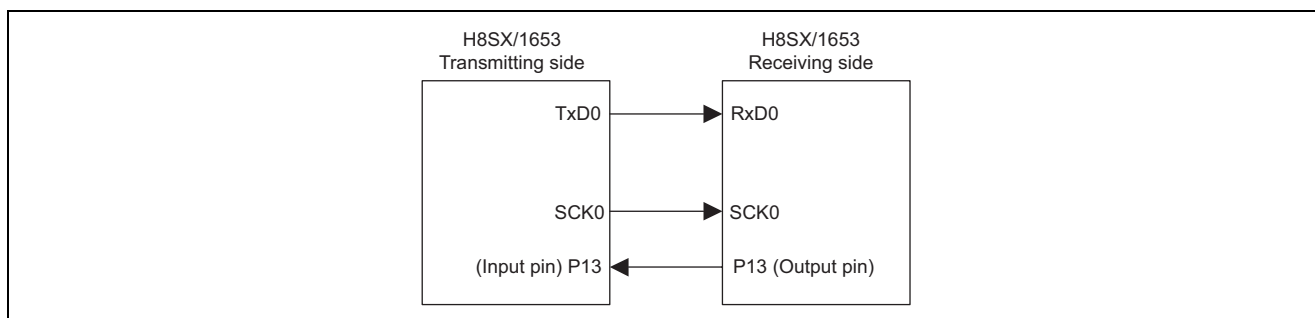

Figure 1 Clock Synchronous Serial Transmission
- An example of connection for this sample task is shown in figure 1.